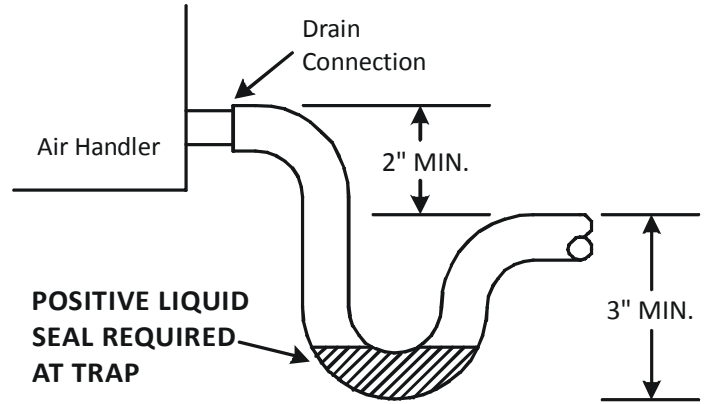

Figure 15
- Some installation may require a field fabricated or field supplied secondary drain pan under the coil cabinet enclosure. The installation must include a "P" style trap that is located as close as is practical to the evaporator coil See Figure 15 for details of a typical condensate line "P" trap.